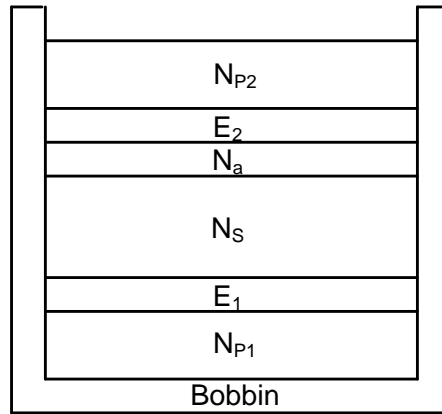

Figure 6
- ※ As shown in figure 6, to minimize the effect of the leakage inductance and EMI, the coupling between the transformer primary side and the secondary side should be as tight as possible.